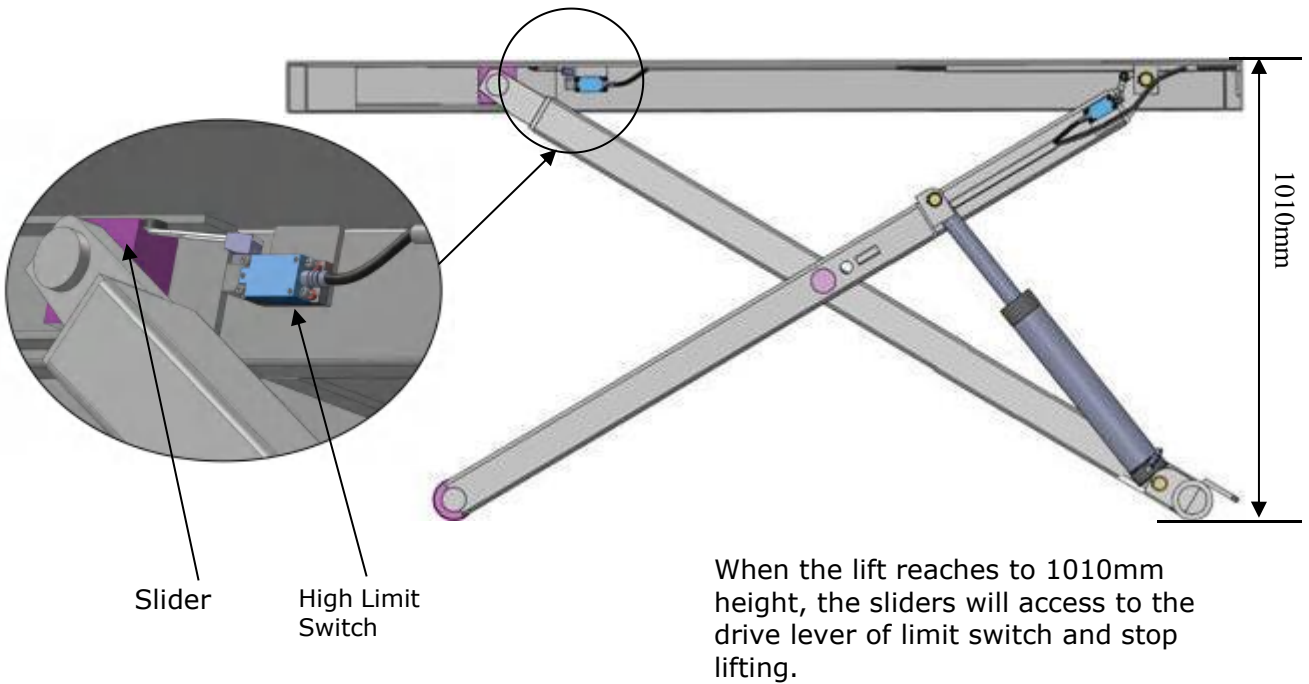

Fig.11
2.1 Higher limit switch illustration (See Fig.11)